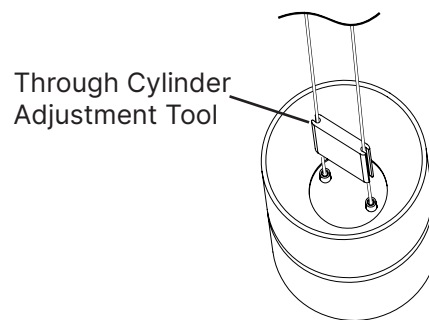

Fig. 23
4. Adjust along cable to desired position: to raise, push the luminaire up while holding the cable below; to drop, slide **Through Cylinder Adjustment Tool** over power cables and press down on plungers to adjust height and spacing between luminaires, release the Plunger to lock (Fig. 23). Repeat process for up to 3 Through Cylinder Luminaires per cable set.